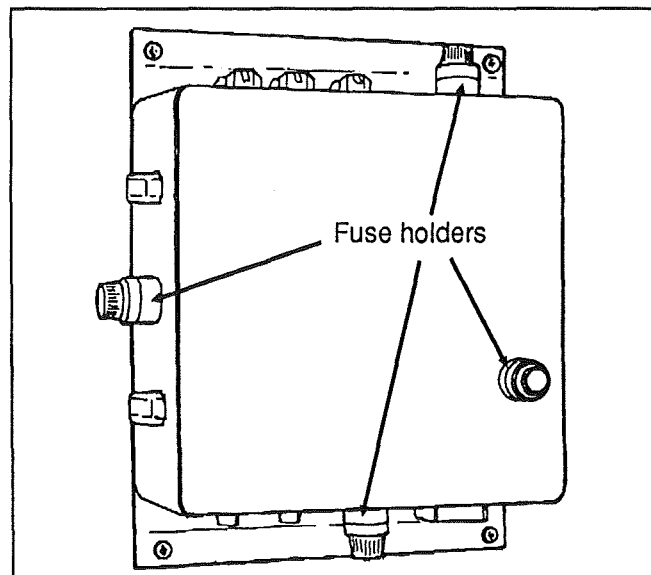

FIG. 5 - Public address control box
The public address control box is located in the left corner at driver's feet. Four (4) cartridge-type fuses are mounted in external holders of the box and may be checked without removing the box from its location (see fig. 5). To remove a fuse, unscrew the fuse cap, then remove the fuse from its holder with the cap as the cap is removed. The fuse may then be pulled from the cap. Always replace a fuse with a fuse of the same type and rating.